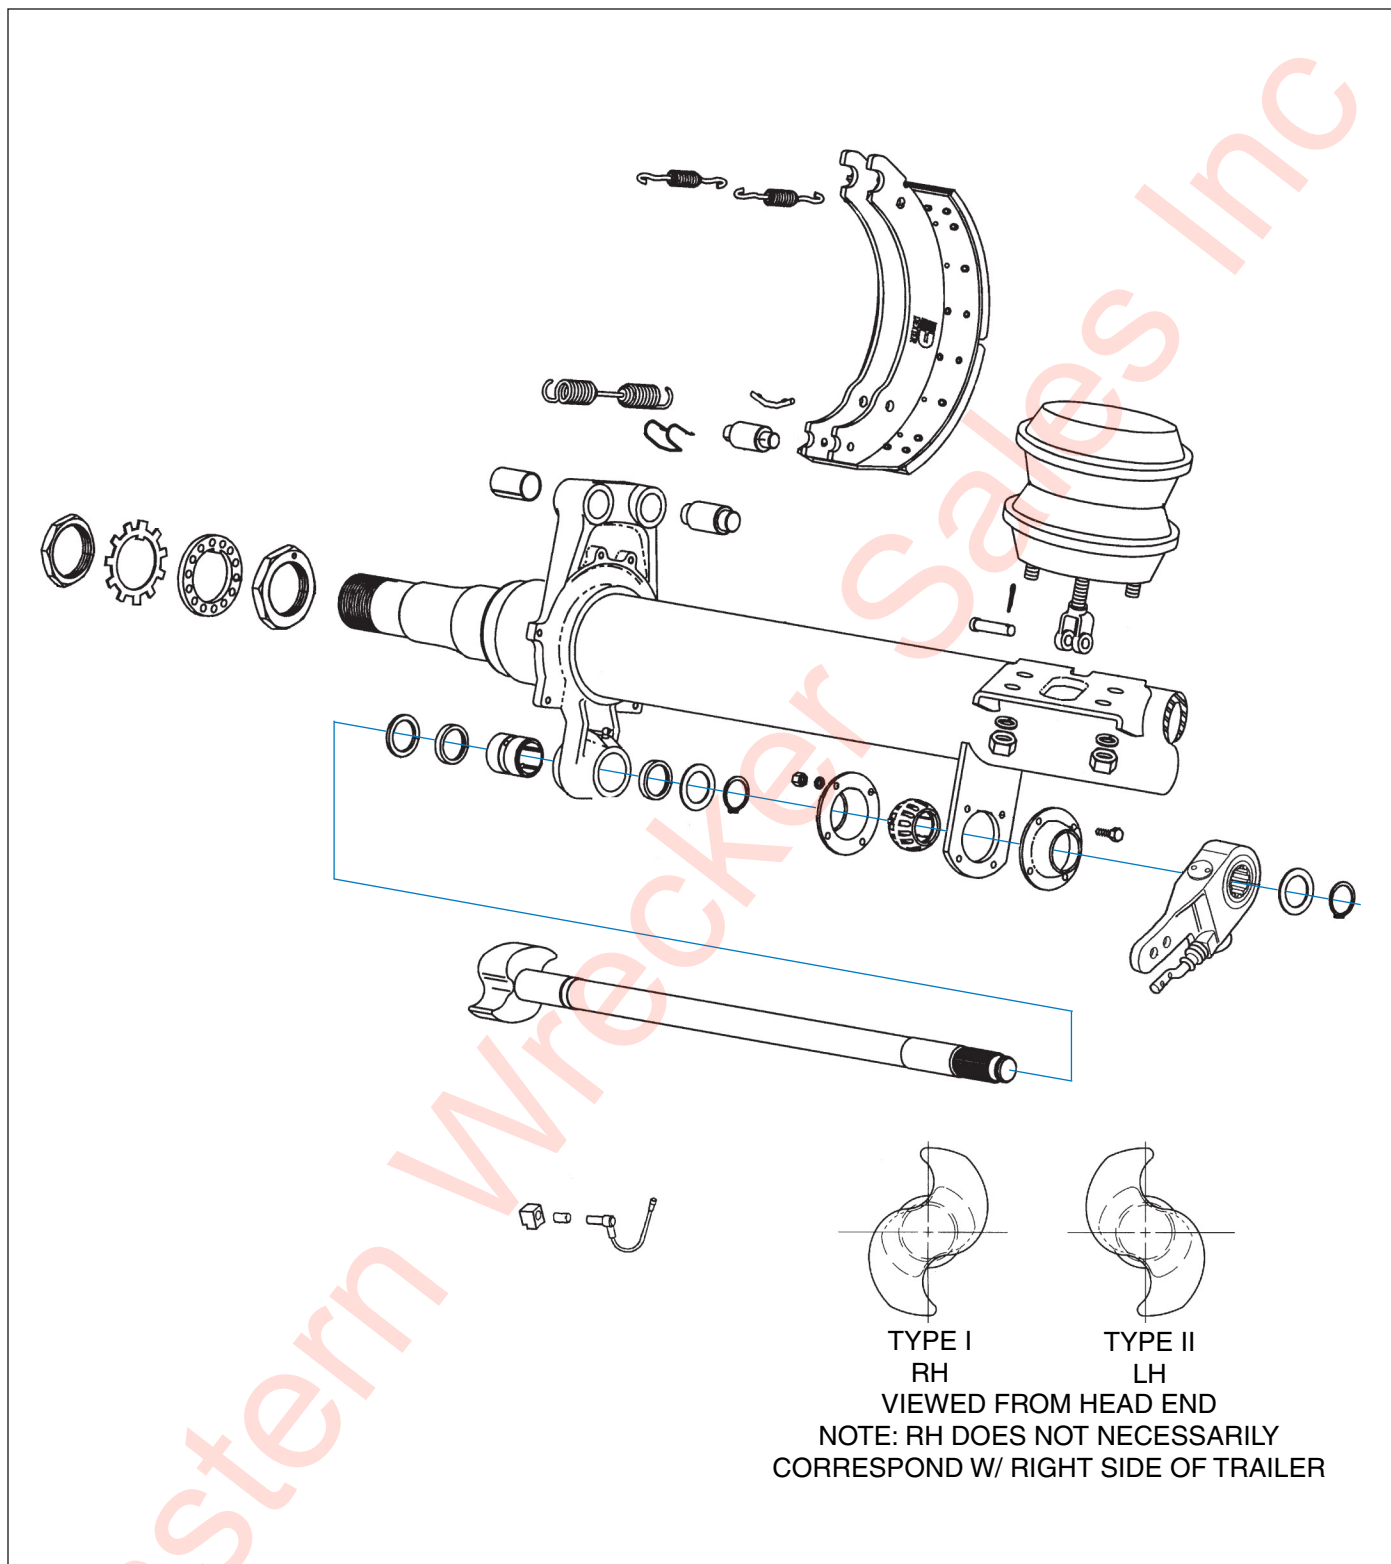

Figure 4-16: Axle and Brake Assembly
2. Remove slack adjuster lock ring and slack adjuster (*See Figure 4-16.*)
1. Release brakes and back off slack adjuster (*See Figure 4-16.*)